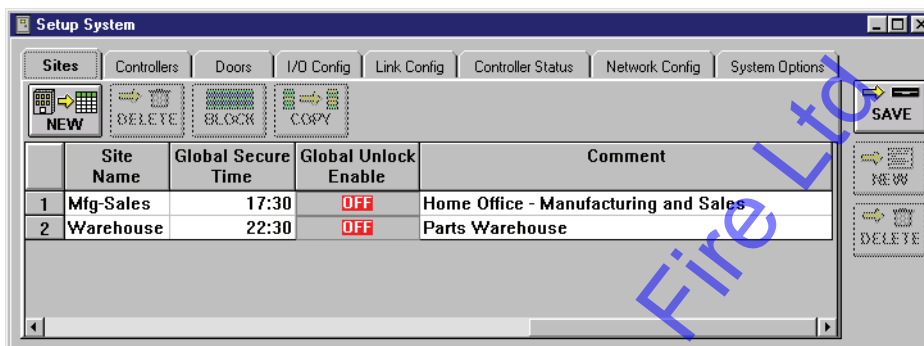

Figure 8-10: Comment Field Information - New Site
2. Type the global secure time for the site. For example, the global secure time for the parts warehouse should be 22:30 hours (10:30 P.M.); type **22:30** (see Figure 8-10 on page 11 of this section).
1. Click on the “Comment” cell for the site (see Figure 8-10).
Based on the remaining parameters, the database for the Warehouse site should look similar to Figure 8-10.